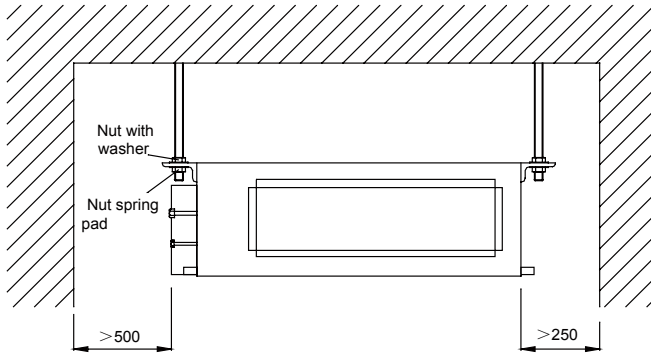

Fig.1
- (1) Ensure the top hanger is strong enough to withstand the weight of the unit.
- (2) The drainage of the drain pipe is easy.
- (3) No obstacle is in the inlet/outlet and the air circulation is in good condition.
- (4) Ensure the installation space shown in Fig.1 is left for the access to maintenance.
- (5) It should be far away from where there is heat source, leakage of inflammable, explosive substances, or smog.
- (6) It is the ceiling type unit (concealed in the ceiling)
- (7) The power cords and connection lines of the indoor and outdoor units must be at least 1m away from the TV set or radio to avoid the image interference and noise ( even if 1m is kept, the noise may be produced due to the strong electric wave.)